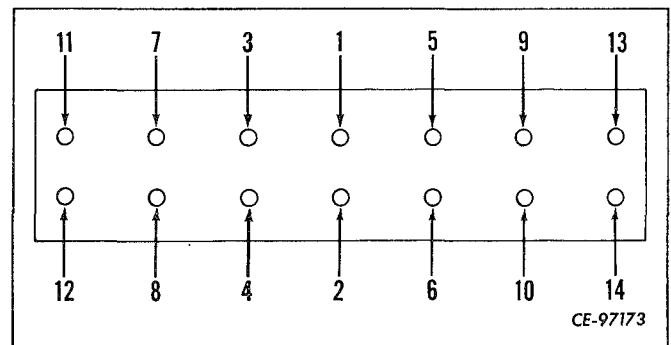

Figure 13-11
d. Using a rivet press, install the rivets in Fig. 13-11 following the sequence shown.